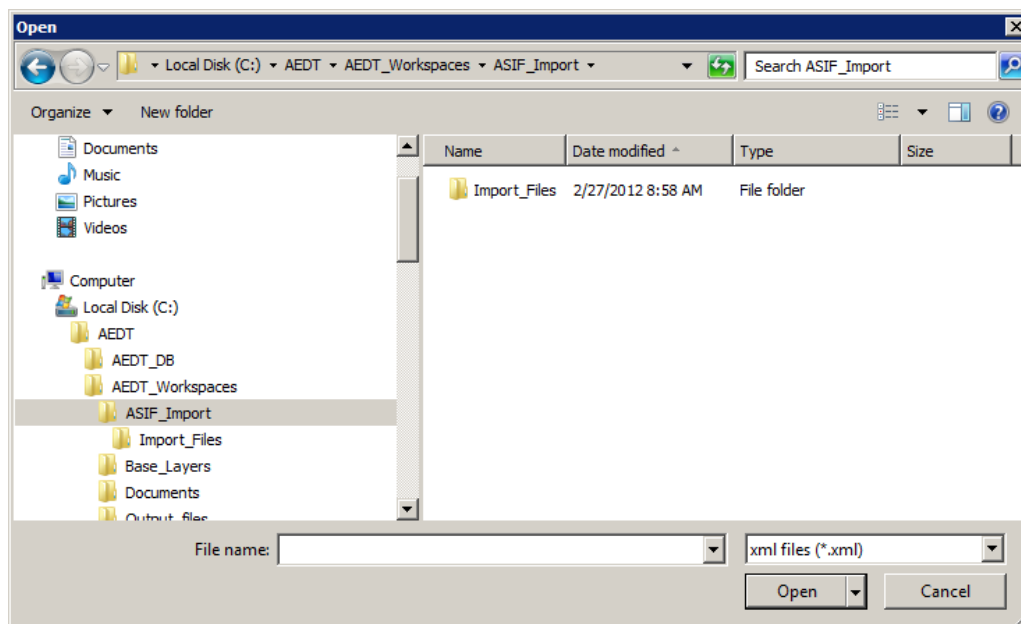

Figure 3-5 Open an ASIF
3. Navigate to the appropriate file (.xml) and select *Open* (Figure 3-5).